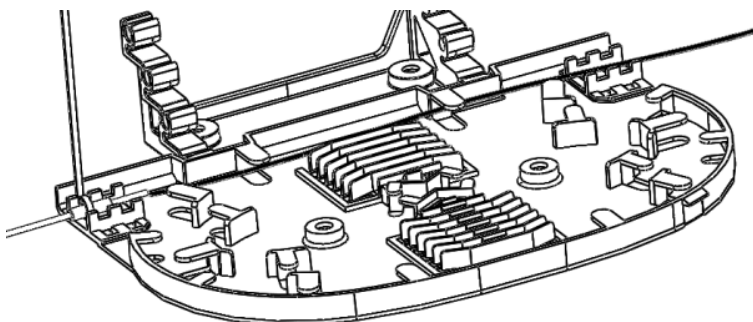

Figure 21
- 1.5.8 Place a plastic clamp to secure the hose attachment (Fig. 21) and rotate the splice trays to have ease of access and pass the plastic clamp